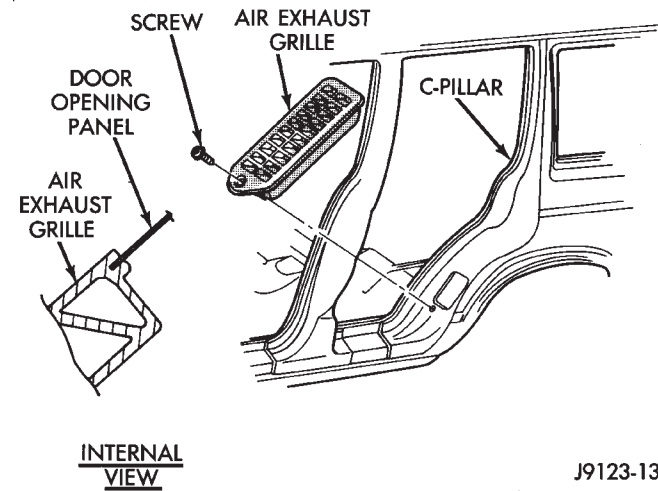

Fig. 65 Door Opening Air Exhaust Grille
- (1) Remove the screw that attaches the grille to door the opening panel (Fig. 65).
- (2) Pry the bottom edge of the grille from the door opening panel.
- (3) Pull downward and remove the grille from exhaust port in the door opening panel.